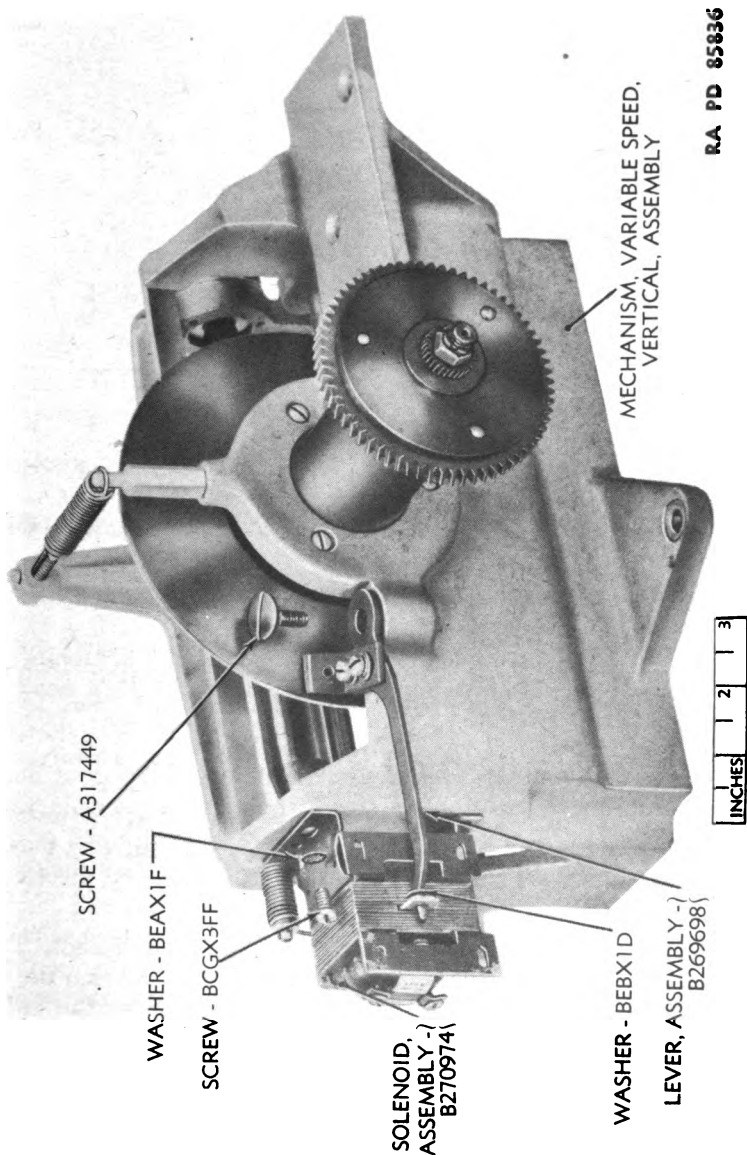

Figure 84 — Installing Solenoid Brake (Director M5A1)
c. If the brake fails to release when the switch is on and the limit switch is not cut out, the solenoid may be defective and should be replaced. Be sure the spacing washer BEBX1D is on the end of the lever as shown in figure 84, otherwise the solenoid may not release